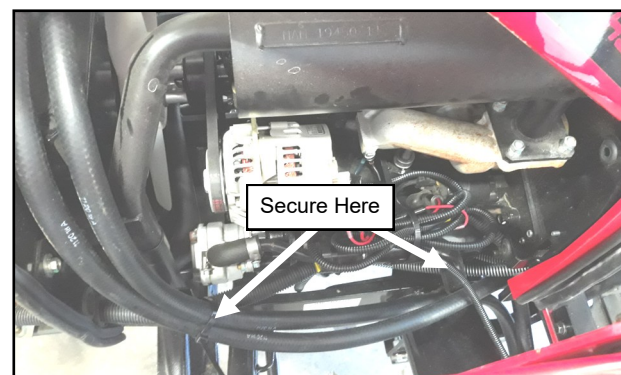

Fig. 20.2 (Run Hose Through Engine Bay)
- 20.2 Run the rest of the hose, as if it were a stacked pair of hoses, along the left side of the engine, then up and over the radiator. Make sure the heater hose is not too tight or kinked and secure in place with 2 plastic cable ties as shown in fig. 20.2. **CAUTION: make sure the heater hoses are not too close to any part of the exhaust system.**